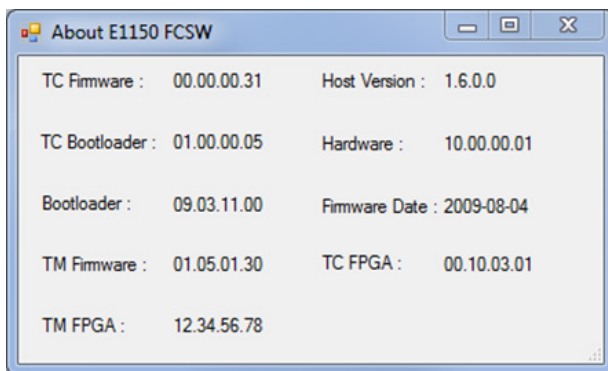

Figure 3 E1150 FCSW About Window
4. To view the FCSW and E1150 Version information, click on **Help** and then **About** (Figure 3).
Note: The firmware version shown in Figure 3 is for example only. Your version information may be different.